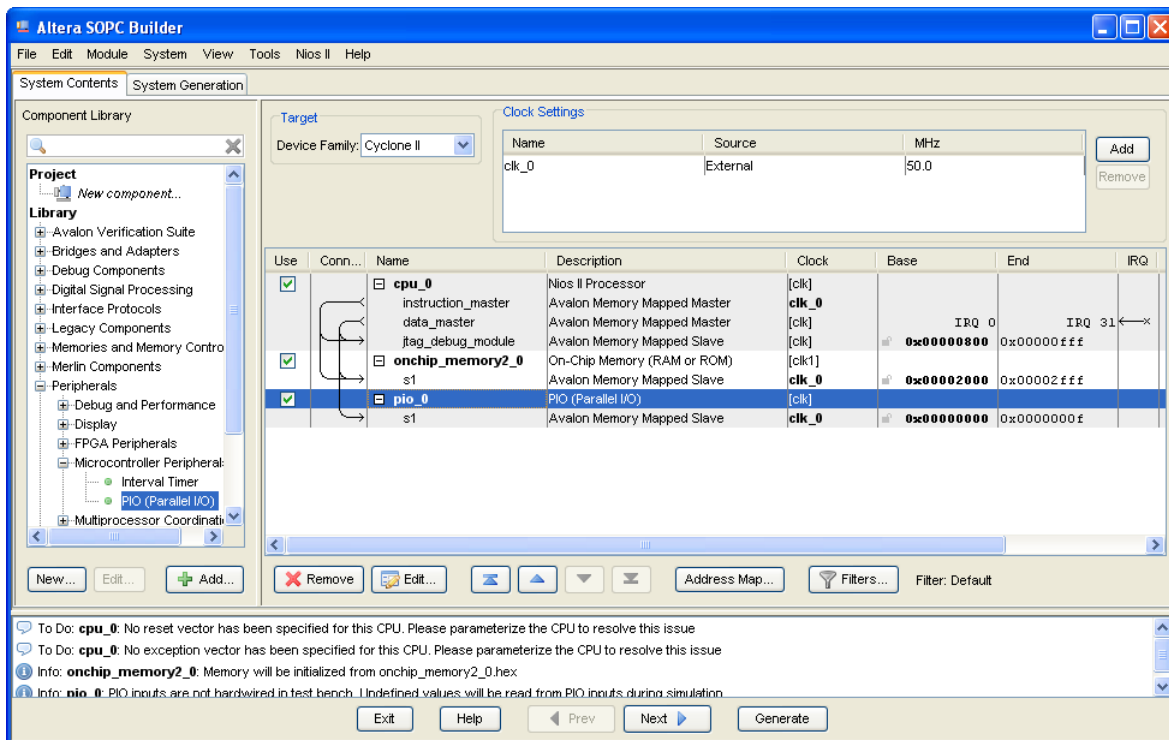

Figure 11. The parallel input interface included on a DE-series board.
- Click Finish to return to the System Contents tab as given in Figure 11